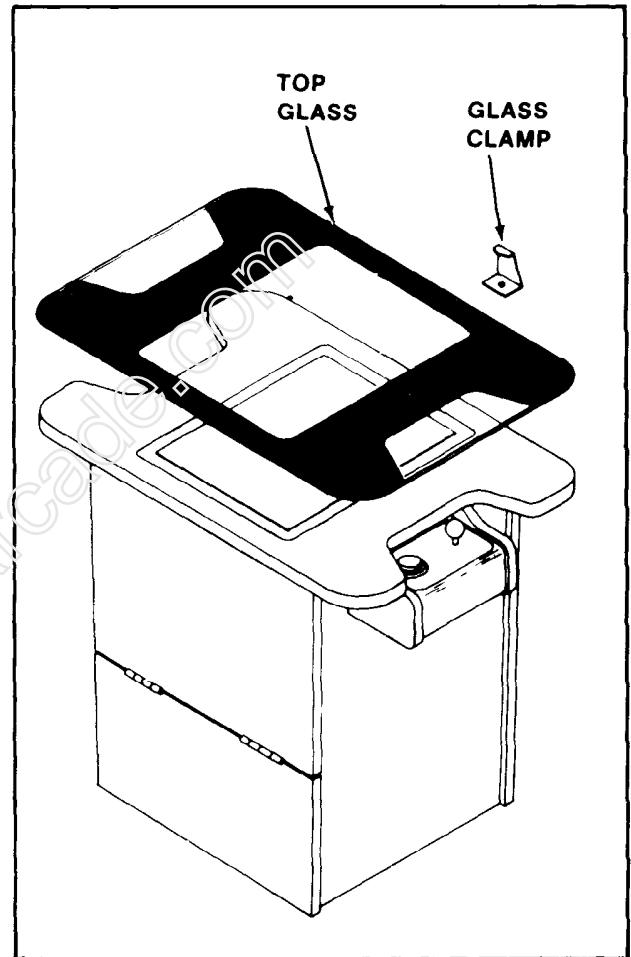

Figure 2-10 Removing the Top Glass - Cocktail
**2.5.3 COCKTAIL TABLE MODEL:** (See Figure 2-10)